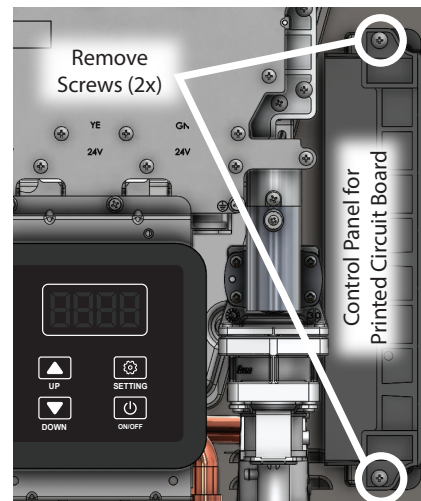

Figure 29 - Control Panel Location
- 4** Remove the two screws (top and bottom) securing the control panel to the Parent water heater. The control panel is located on the bottom right side of the water heater as shown in Figure 29.